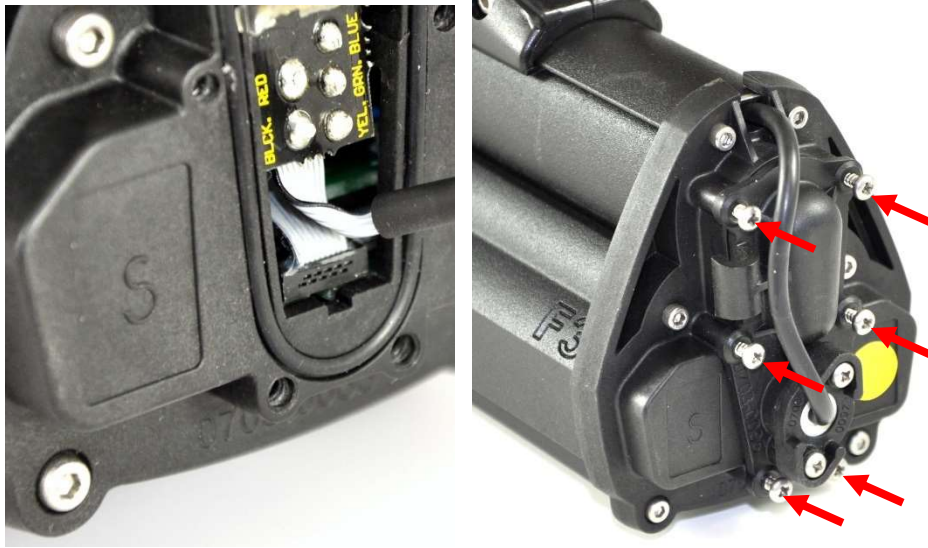

Figure 17: Wiring Loom Cable positioned and 6 screws inserted.
- Fold excess wiring loom cable into the electronics pack above the plug. Show in Figure 17.